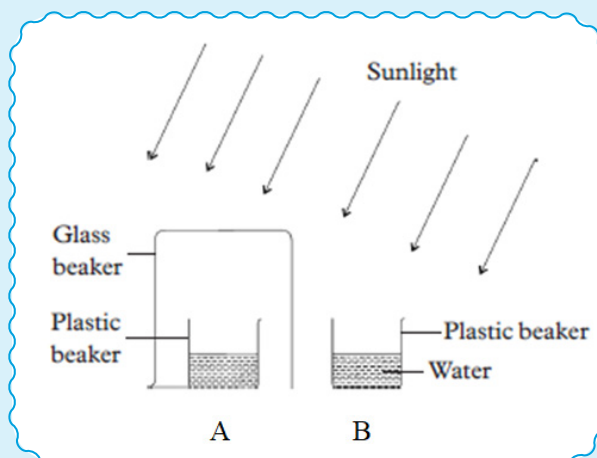

Figure 1.4.1: Simple illustration of the greenhouse effect
1. Cover one of the small plastic beakers full of water with the big glass beaker or glass box as shown in Figure 1.4.1. below.
2. Leave the other small plastic beaker with water in the open air as shown in figure 1.4.1